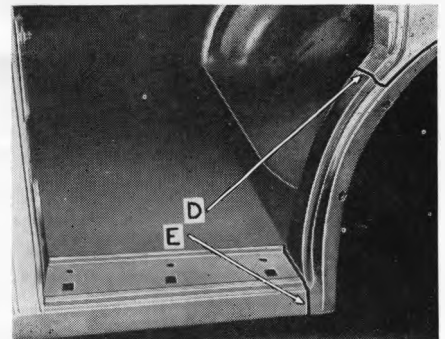

FIG. 4
3. With a welding torch, clean off the solder from the original weld "D" Fig. 4, then saw through this weld.
4. Saw the end of the rocker panel and the floor pan at "E" Fig. 4.
6. Tack weld to the rear quarter panel and the lower end to the rocker panel, "D" and "E" Fig. 4. Again place the rear fender in position, also close the rear door and check alignment. Remove the fender.
9. Weld across "D" and "E" Fig. 4.